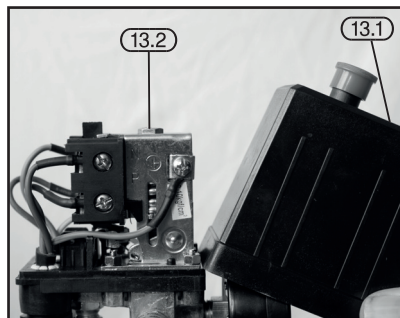

FIG.6
9.3 ADJUSTING THE PRESSURE SWITCH - FIG. 6